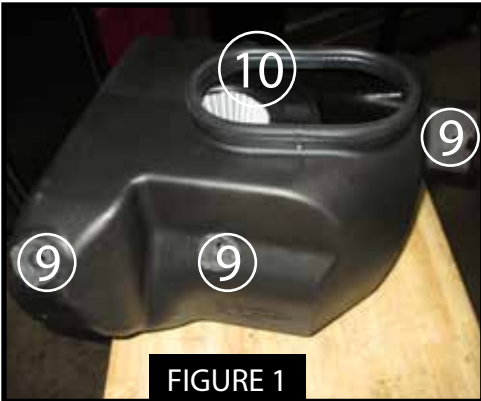

FIGURE 1
Step 10: Insert the aFe POWER air filter into the housing and slip the larger clamp over the filter-to-housing interface (8). Tighten the clamp.
Step 11: Remove the three (3x) rubber grommets (9) and one (1x) steel sleeve from the factory airbox and transfer them to the aFe POWER housing, as shown in Figure 1.
Step 12: Install the supplied trim seal (10), as shown in Figure 1.